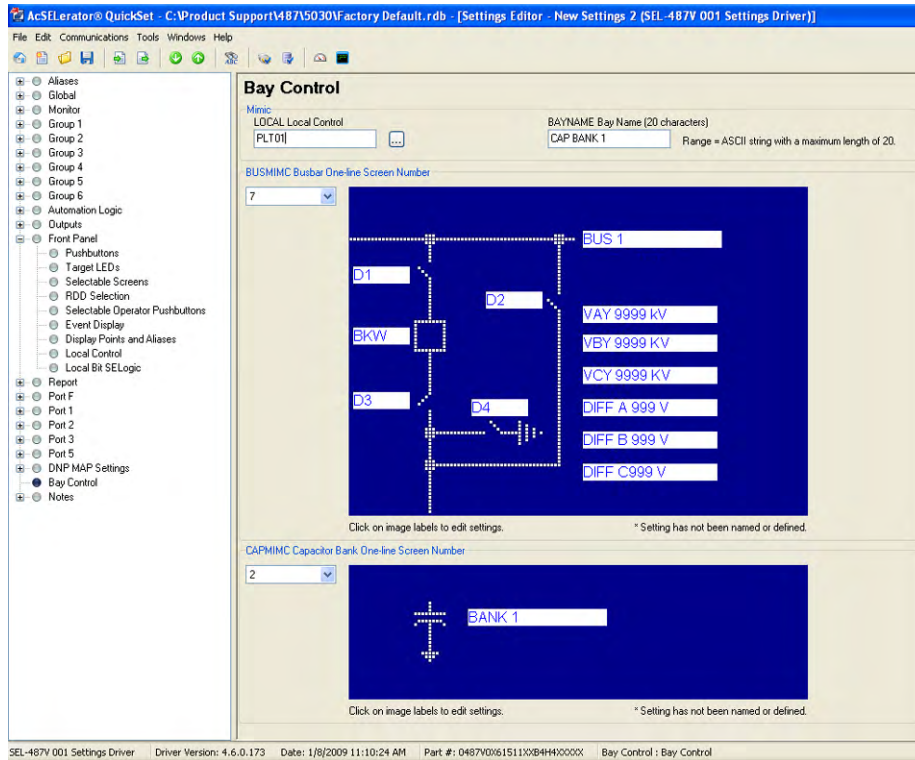

Figure 11 Interactive Relay Settings Form
*Figure 11* illustrates the interactive relay settings form in QuickSet. Select an apparatus in the one-line diagram and a form with apparatus-specific settings appears.